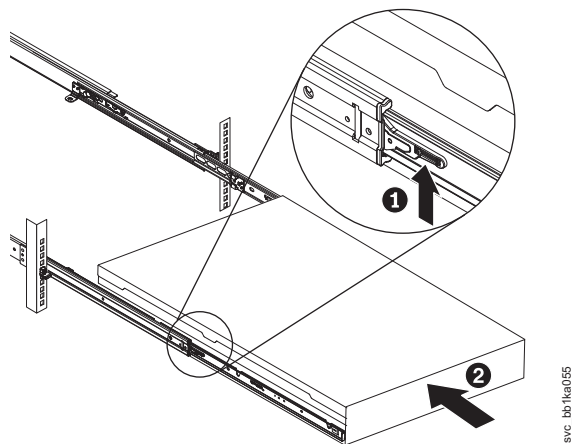

Figure 142. Raising the 2145-DH8 locking levers of the slide rails of the rack
12. Lift the locking levers (**1** in Figure 142 on page 172) on the slide rails and push the server **2** all the way into the rack until it clicks into place.